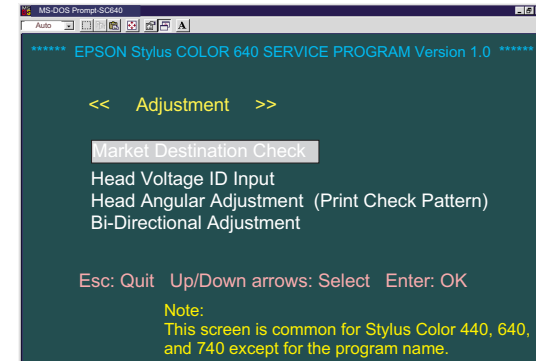

Figure 5-19. Adjustment Menu of the Program
For this reason, always confirm the market/destination status on the **Destination Setting Screen for Stylus Color 740** (Figure 5-19) after you change or set a CG.
4. By using the Up/Down arrow key, select **Head Voltage ID Input** in the adjustment menu. (Figure 5-19.)
3. By using the Up/Down arrow key, select **Bi-Directional Adjustment** in the adjustment menu. (See Figure 5-19.) The following screen appears.